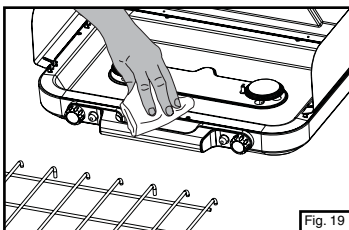

Fig. 19
- Wipe clean with soft cloth and mild dish detergent. Do not use abrasives. (Fig. 19)